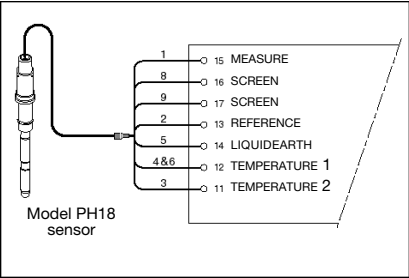

Fig. 13 Connection diagram WU18 for PH402 and PH202
Once the jumpers and impedance Service Codes (03 & 04), Calibration Check (05) and Temperature element have been set correctly, wire the probe cable to the instrument as shown in Fig. 13. Power wiring instructions are located in the respective instrument manuals: